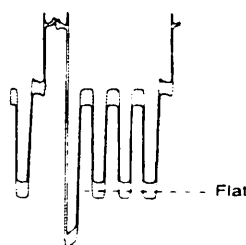

Fig 6.
- 5: Make adjustments using buttons "4" or "6" on the remote control until the waveform is as shown in fig. 6.